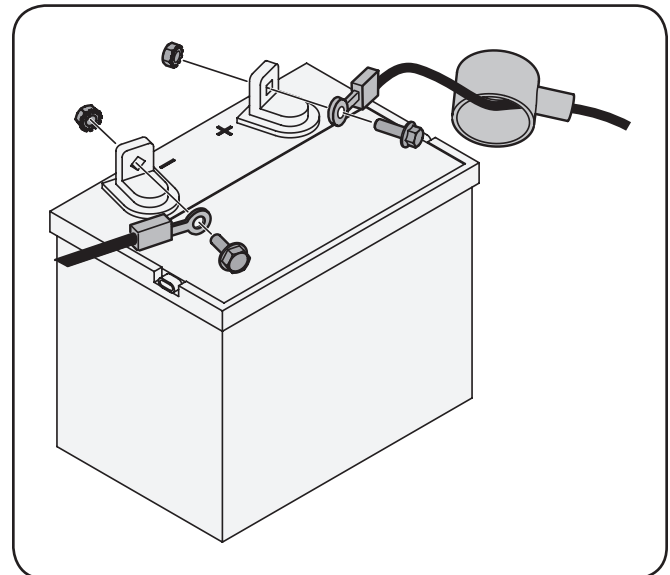

Figure 3-6
1. Remove the plastic cover, if present, from the positive battery terminal and attach the red cable to the positive battery terminal (+) with the bolt and hex nut. See Figure 3-6.
2. Remove the plastic cover, if present, from the negative battery terminal and attach the black cable to the negative battery terminal (-) with the bolt and hex nut. See Figure 3-6.